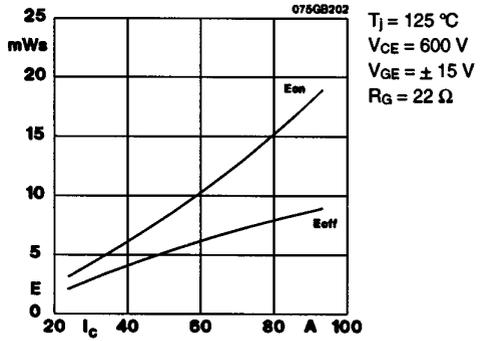

Fig. 2 Turn-on /-off energy  $E = f(I_c)$
5) See fig. 2 + 3;  $R_{Goff} = 22 \text{ } \Omega$